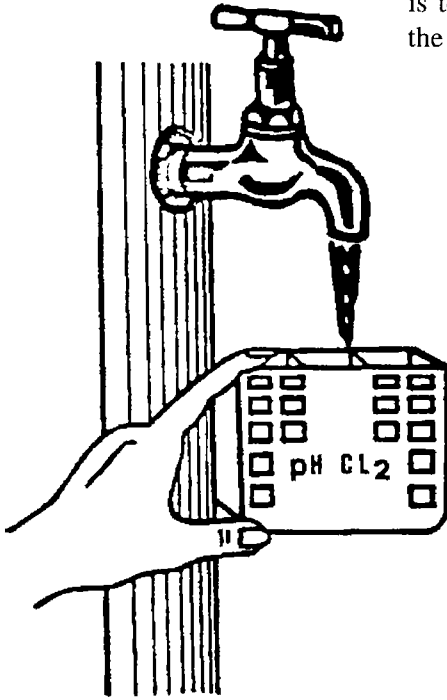

Figure 2. Filling the comparator cells with water
- Rinse the comparator cells three times with the water which is to be tested and finally fill all the comparator cells with the same water (see Figure 2).